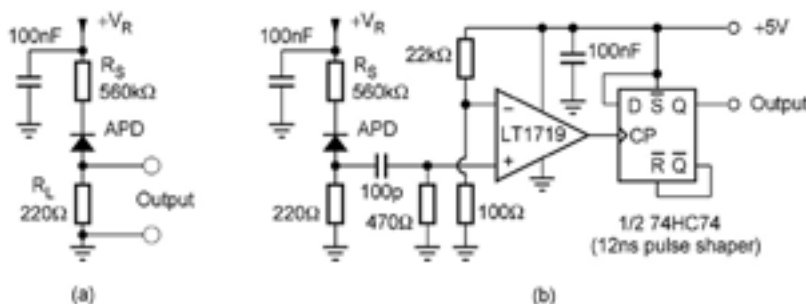

Fig. 7:
In order to fully assess the characteristics of APDs in Geiger mode one must use some kind of a quenching circuit. In most measurements a simple passive quenching (PQ) circuit shown in Fig. 7(a) can be used, optionally followed by a home-made constant level discriminator (CLD) and a 12 ns pulse shaper as shown Fig. 7(b). A threshold level of the CLD is fixed at 22.5 mV. Due to the capacitive coupling, the circuit in Fig. 7(b) can measure avalanches up to over 2 MHz and is highly immune to the paralyzation effect. If the current limiting resistor R_C is chosen sufficiently large, an avalanche will cease (quench) by itself within a sub-nanosecond timescale.